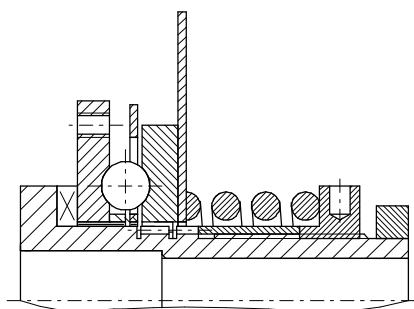
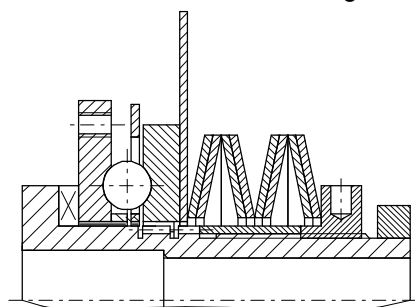

Fig. 7.2
Fig. 7.5
- Laminated cup spring assemblies must only be installed in the respective layers shown. See figure 7.2 to figure 7.5.
- If the maximum or minimum actuating torque of the fitted spring is not sufficient, it should be checked whether a stronger or weaker spring can be fitted. See also item 7.2.1.
- After each actuating torque adjustment, the locking screws (21) should be cleaned and smeared with Loctite 243 and then retightened.